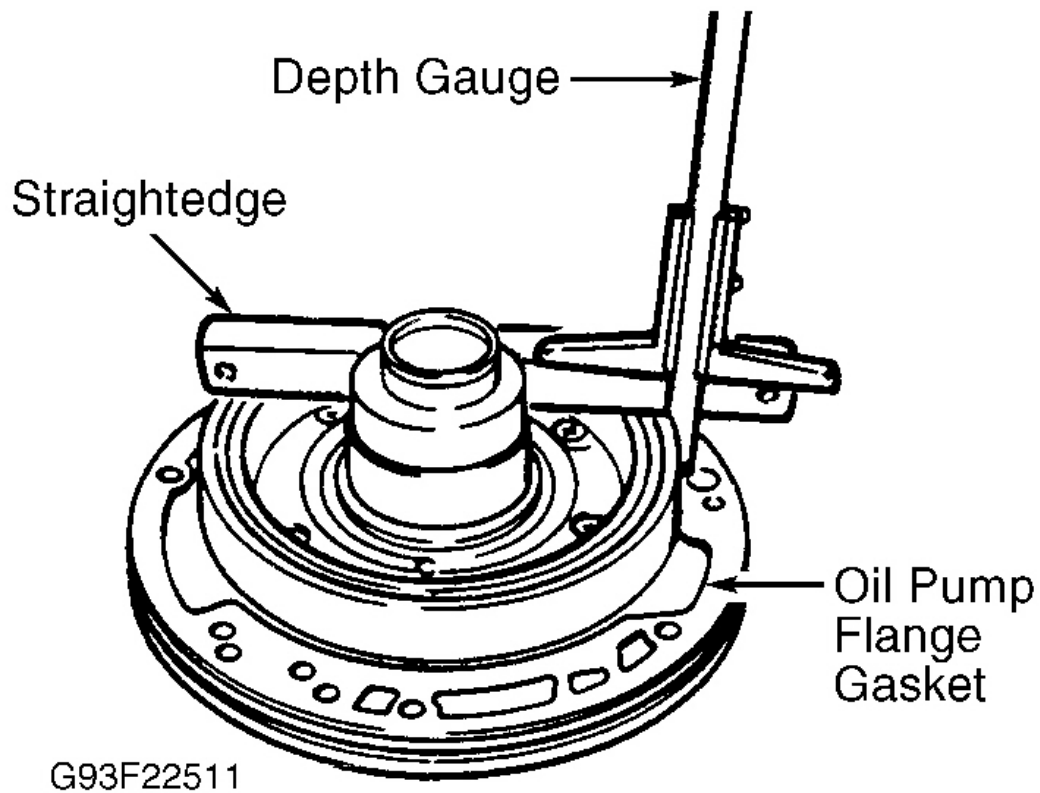

Fig. 81: Measuring Height Of Piston
14. Place a straightedge across top of piston. Place gasket on oil pump flange. Using depth gauge, measure distance from straightedge to oil pump flange gasket. See **Fig. 81**. Subtract the thickness of the straightedge.